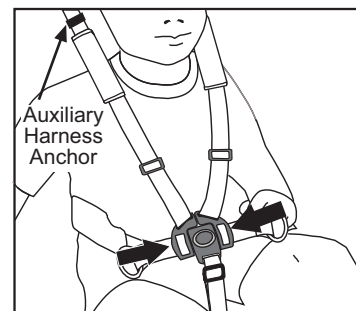

Fig. 19 Fasten Crotch Strap/ Buckle.
- Fasten shoulder straps. Insert both shoulder strap buckles into crotch strap buckle (Fig. 19).
NOTE: For heavier and or taller passengers (closer to the maximum limits above), auxiliary harness anchors may be utilized by unfolding anchor Velcro (Fig. 19), sliding buckles above anchors, and reconnecting Velcro to keep buckles in place.